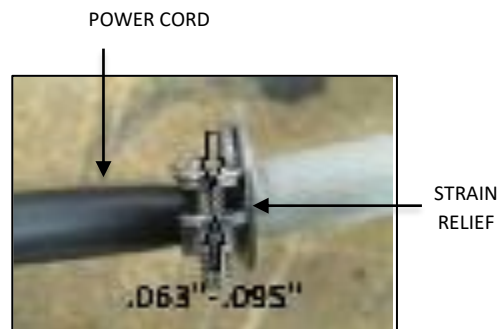

FIG. 14 – STRAIN RELIEF
8. Insert CORD through the STRAIN RELIEF and tighten two SCREWS on the STRAIN RELIEF above the hanging system where marked. Tighten screws until there is a Gap of .063" - .095" between the strain relief body and compression plate. Overtighten could damage CORD and under tighten won't support the FIXTURE properly. See detail as shown in FIG.14.